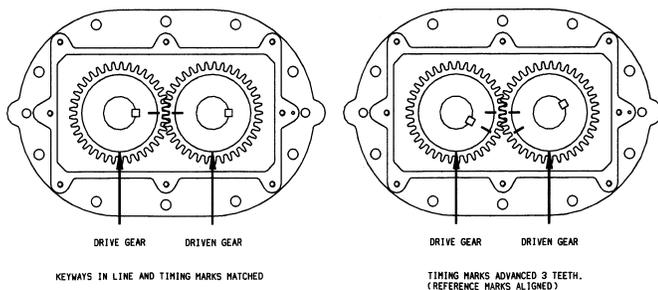

Figure 1. Timing Gear Alignment
Align timing marks and count three (3) teeth up and place reference marks on the gears. (Refer to Figure 1 below)